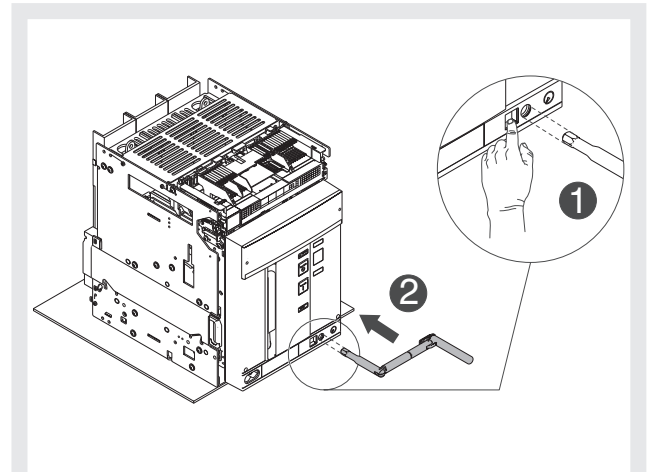

Figure 44
9. Press the lock pushbutton and fit the handle into the moving part. In this phase, the moving part will still be in the **DISCONNECT** position. See Figure 44.